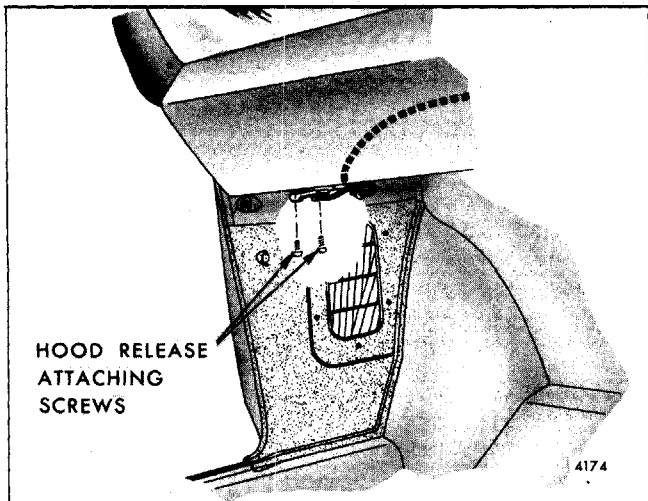

Fig. 4-29-Hood Latch Release Assembly Attachment - H-15 and 77 Styles
1. Under instrument panel, remove screws securing hood latch release to mounting bracket. Disengage release cable grommet from opening in shroud side panel (Fig. 4-29).
3. Detach cable from latch bolt. Remove hood latch release assembly toward body interior by pulling cable through plenum chamber and through hole in side shroud panel (Fig. 4-29).